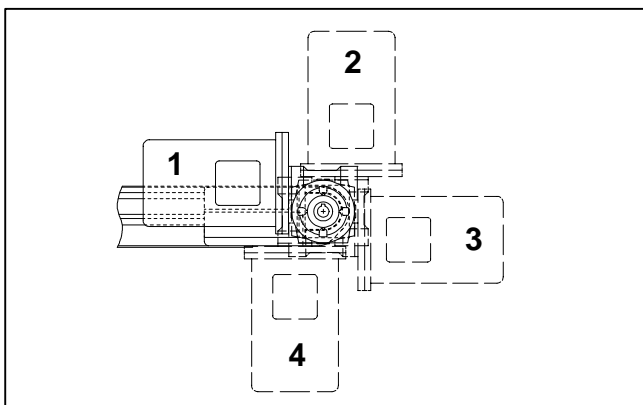
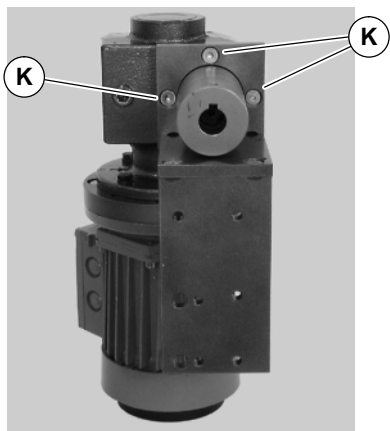

Figure 3
Figure 6
**NOTE:** Gearmotor may be operated in positions 1, 2, 3 or 4 (Figure 3).
4. If required, change gearmotor position by removing screws (K of Figure 6). Rotate gearmotor to other position (Figure 3) and replace screws (K). Tighten to 12 Nm.